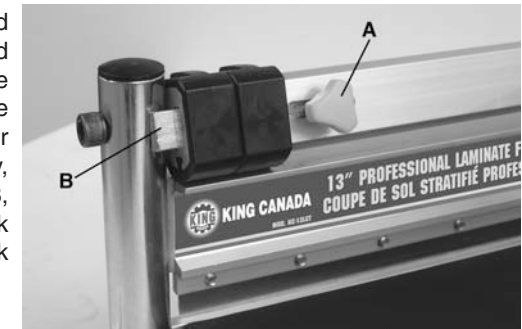

Figure 3
1. The laminate flooring cutter is shipped with the knife assembly in the down and locked position. This safety feature ensures that the cutting edge of the knife is not exposed during transport or storage. To unlock the knife assembly, loosen the safety lock knob (A) Fig.3, depress the handle then slide the lock knob to the right to disengage the lock (B).
1. Unlock the safety lock (Fig.3) and lift the shearing handle to its upright position to lift the knife upwards.